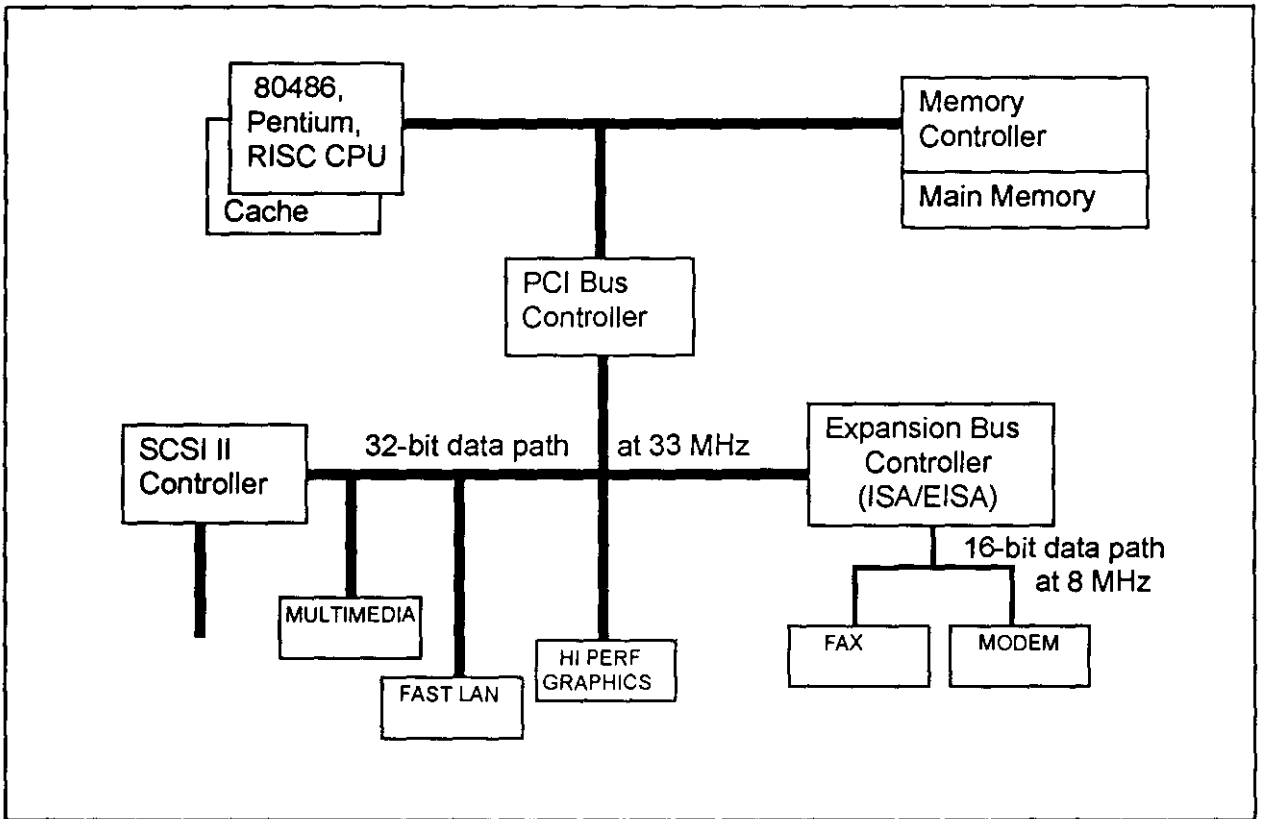

Figure 27-7. PCI Local Bus Architecture
5. It is compatible with ISA and EISA. With implementation of a bus bridge, it supports the slow ISA and EISA buses as shown in Figure 27-7. Buffers in the bridge allow the microprocessor to write into the buffer and go about its own business, leaving the task of handling the slow ISA/EISA to the bridge.